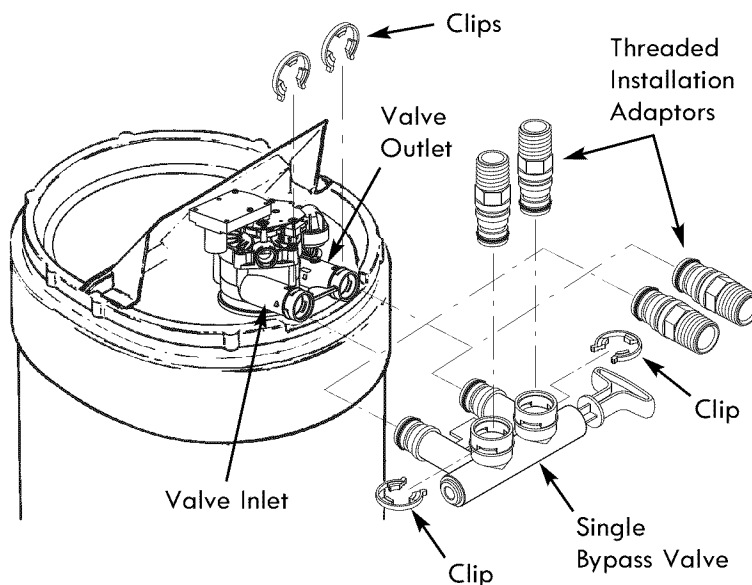

Figure 6
5. Visually check and remove any foreign materials from the valve inlet and outlet ports (see Fig. 6). Carefully remove the two large plastic clips (you will use them). Check to be sure the turbine and support are firmly in place (see Fig. 7).